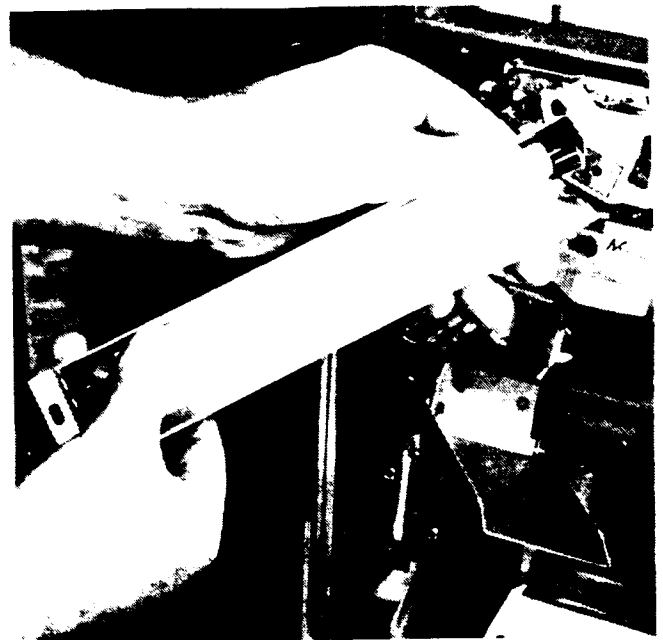

Figure 4-19
- 2) Turn the lamp assembly down and remove and replace the fluorescent light. See Figure 4-19.